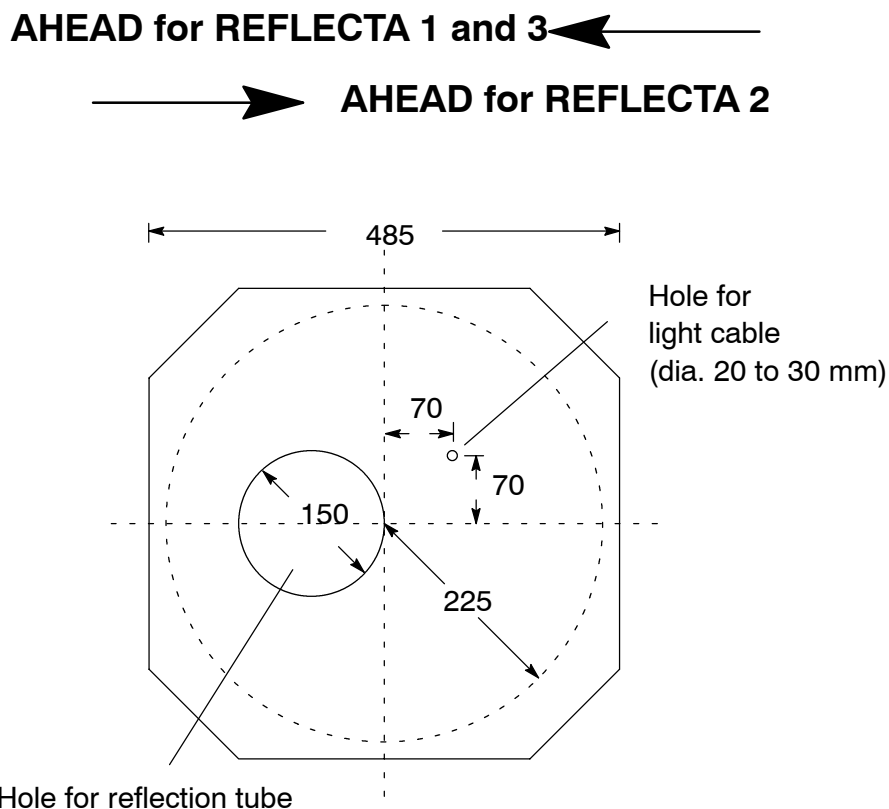

Fig. 6-1: Position of the Holes for Reflection Tube and Light Cable
- 1) Prepare a hole for the reflection tube. **Pay attention to different position for REFLECTA 2 and REFLECTA 1, 3! See Fig. 6-1.**
- 2) Prepare a hole for the light cable, see Fig. 6-1; diameter 20 to 30 mm, sufficient for the light cables and for the cable of the magnetic sonde (option).